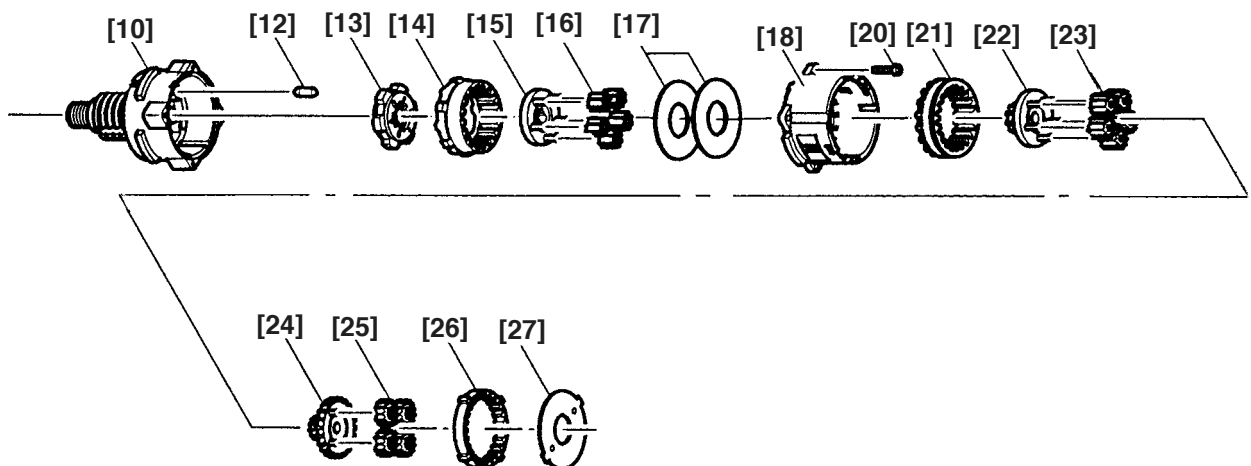

Fig. 5
(b) Mount the parts from the Pin Set [12] to Washer (B) [27] to the part assembled in the above (2) in order (see Fig. 5).
- ④ Pay attention to the mounting direction of the Ring Gear [14], Slide Ring Gear [21], Pinion (C) [22] and Pinion (B) [24] (see Fig. 5).
- ① Mount the Shift Arm [19] to the protruded side of the Rear Case [18]. At this time, insert the protrusion of the Shift Arm [19] into the hole of the Rear Case [18] and check that the protrusion is inserted into the groove of the Slide Ring Gear [21] that is mounted in the Rear Case [18] (see Fig. 5).
- ② Insert the Shift Arm [19] into the groove of the Shift Knob [39] facing "LOW" indication on the Shift Knob [39] backward.